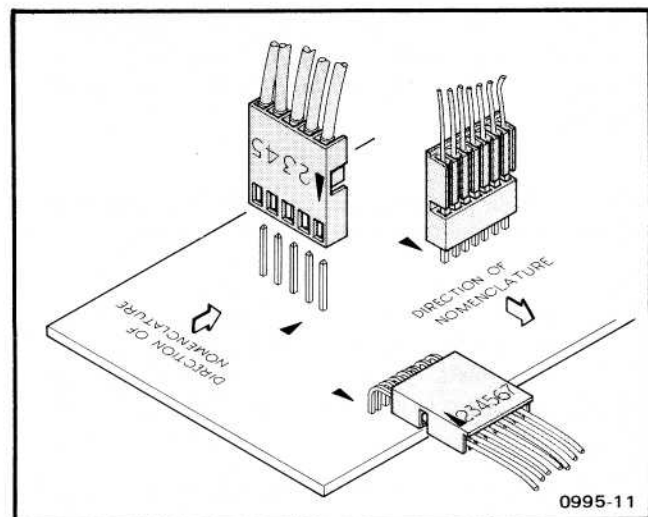

Fig. 5-1. Multipin (harmonica) circuit board connectors.
**Multiple Terminal (Harmonica) Connector Holders:** The multi-connector holder is keyed with a triangle; one on the holder and one on the circuit board. When a connection is made perpendicular to a circuit board surface, the orientation of the triangle and the slot numbers on the connector holder are determined by the direction of the nomenclature marking (see Fig. 5-1). All harmonica connectors are identified on the schematic and board with the prefix "P".